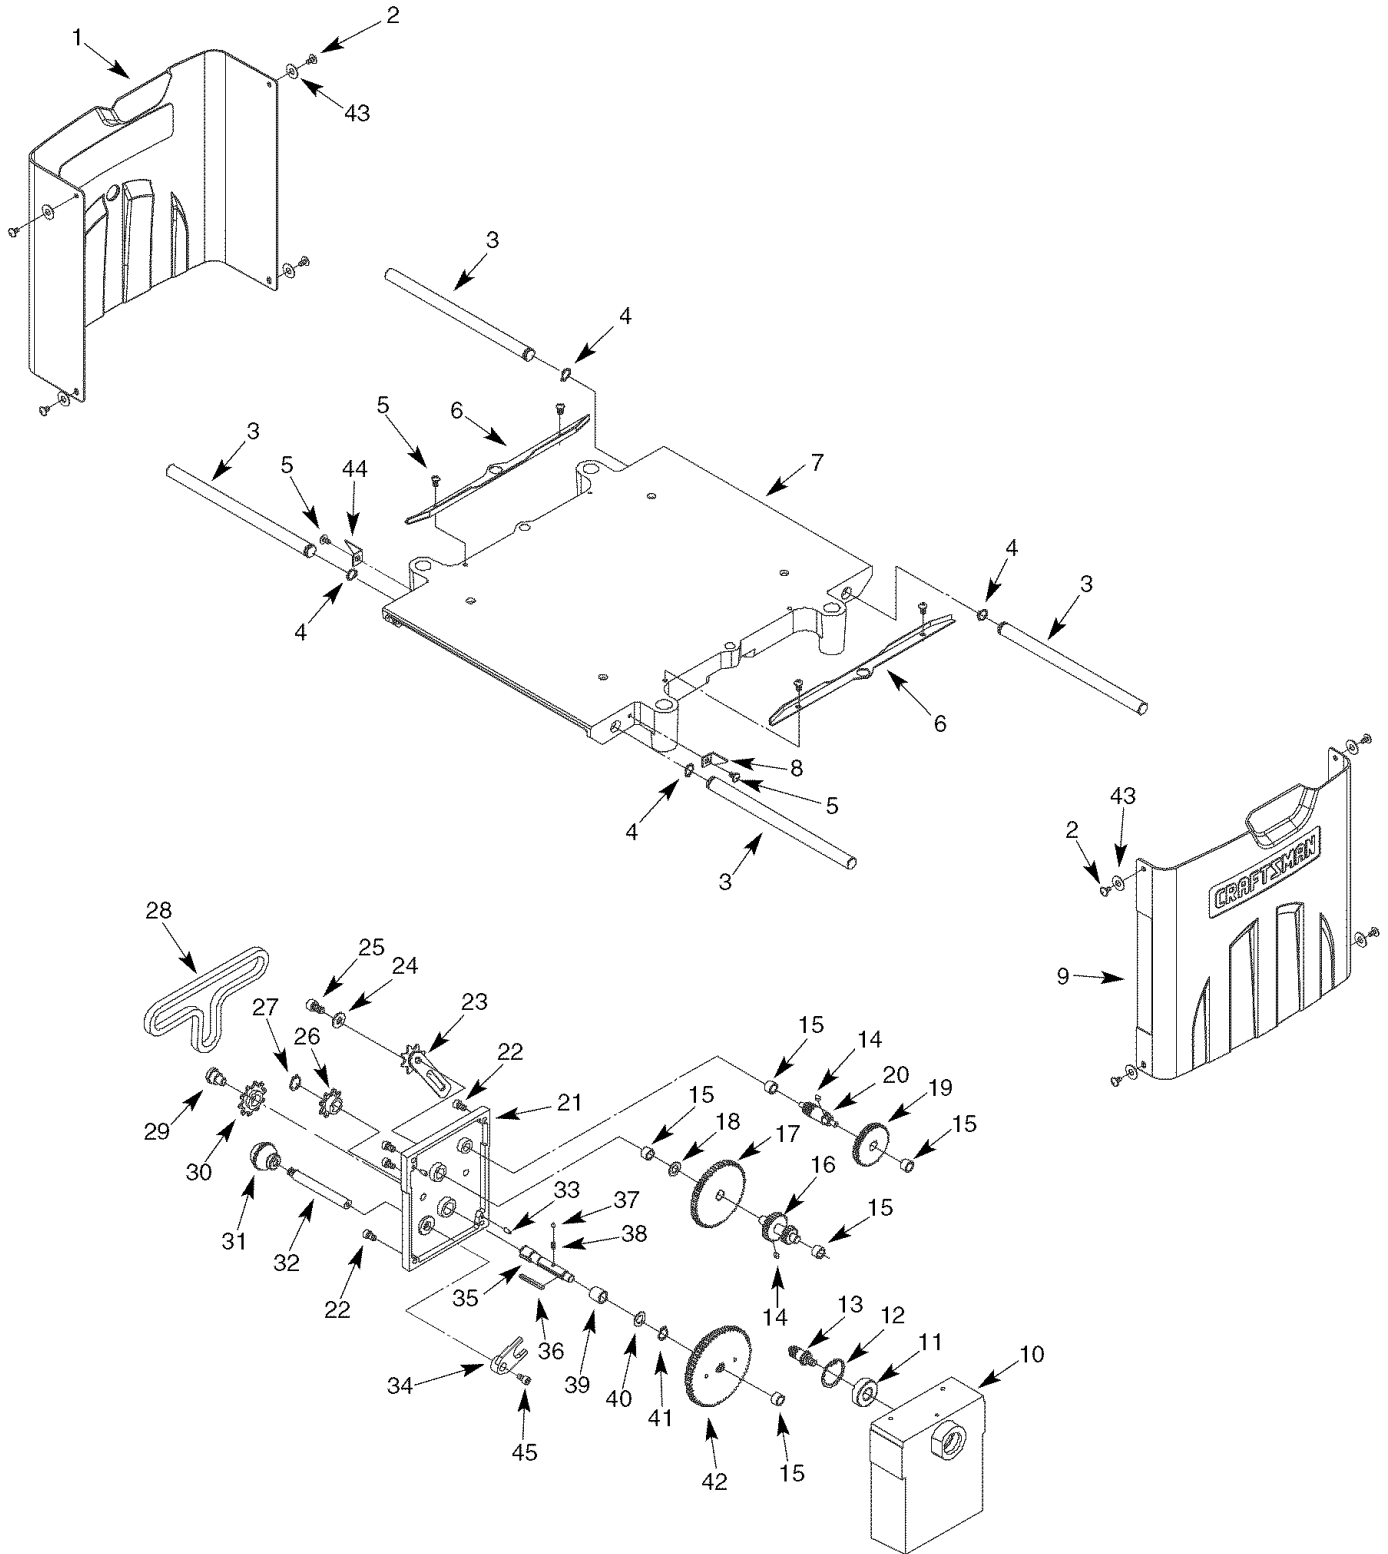

Figure 27 - Replacement Parts Illustration for Gearbox and Table
Refer to Figures 27 and 29, pages 16 and 20.
- Loosen and remove four pan head screws (Figure 27, Key No. 2) on right cover (Figure 27, Key No. 9)
- Replace cover and tighten four screws (Figure 27, Key Nos. 2 and 9).